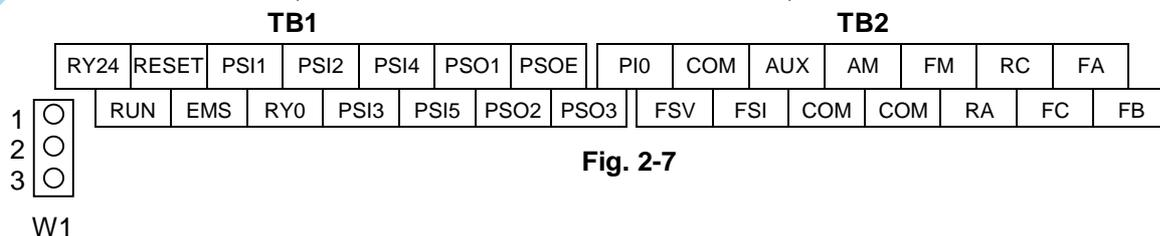

Fig. 2-7
- 9) The layout of the control circuit terminal block is shown in Fig. 2-7; functions are in Table 5-2. Terminals with the same terminal symbol are internally connected.